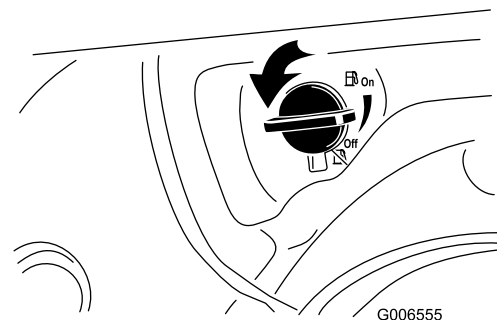

Figure 25
2. Turn the fuel shutoff valve 1/4 turn counterclockwise to open it (Figure 25).